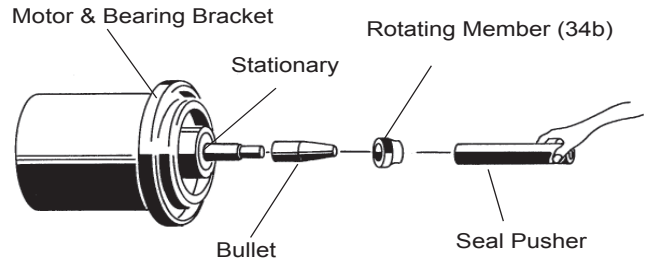
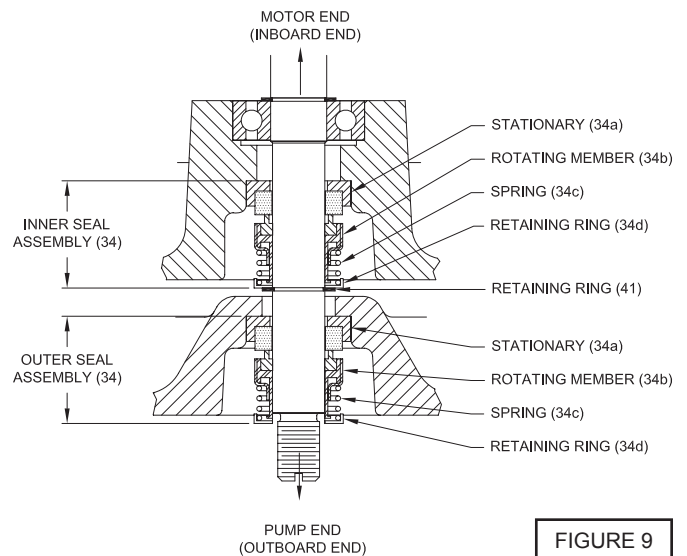

FIGURE 8
FIGURE 9
**Outer Seal** - To expose shaft seal (34) for examination disassemble volute and impeller as outlined in paragraph F-2.1. If further repair is required remove retaining ring (34d), spring (34c) and rotating member (34b) from shaft (see Figure 9). Examine all seal parts and especially contact faces. Inspect seal for signs of wear such as uneven wear pattern on stationary members, chips and scratches on either seal face.
**Inner Seal**- Clean and oil seal cavities in seal plates (1, 4). Lightly oil (**DO NOT use grease**) outer surface of stationary member (34a). Press stationary member (34a) firmly into inner seal plate (4), using a seal pusher (see parts list - seal tool kit). Nothing but the seal pusher is to come in contact with seal face (see Fig 9). Assemble pump as outlined in paragraph F-3.3.
Make sure the stationary member is in straight. Slide a bullet (see parts list-seal tool kit) over motor shaft. Lightly oil (**DO NOT use grease**) shaft, bullet and inner surface of bellows on rotating member (34b) (see Figure 8). With polished surface of rotating member (34b) facing inward toward stationary member (34a), slide rotating member (34b) over bullet and onto shaft, using seal pusher, until polished faces of (34a) and (34b) are together (see Figure 9).